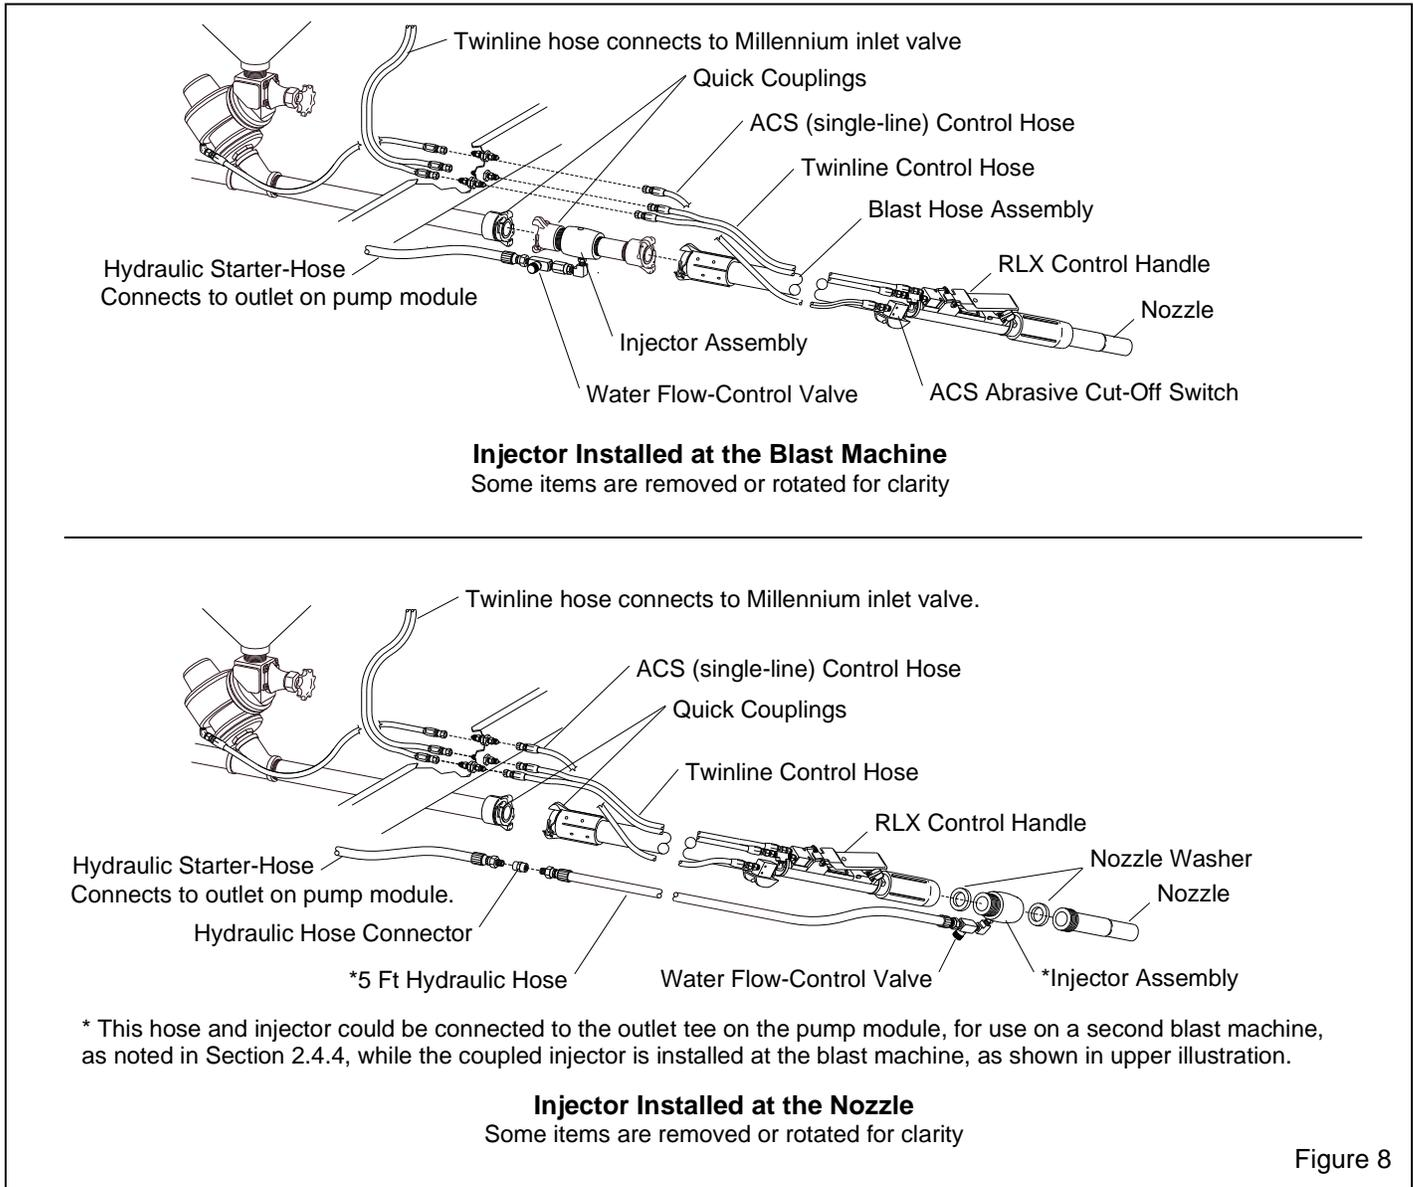
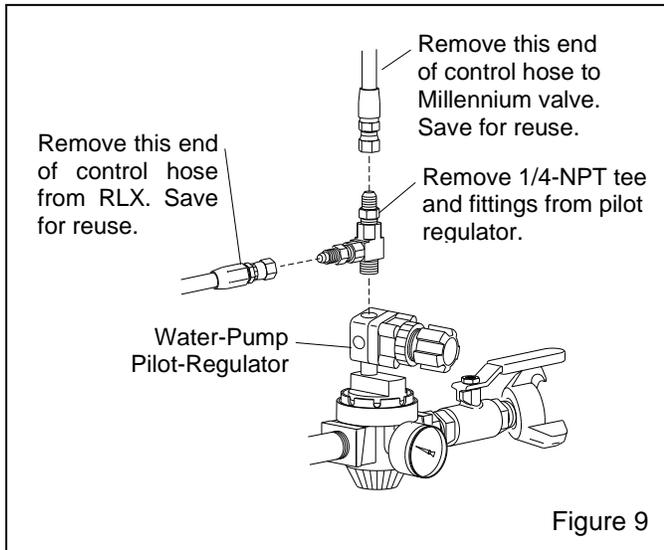

Figure 8
Figure 9
2.4.1 The injector may be placed in one of two locations as follows and, as shown in Figure 8.
Refer to the upper illustration in Figure 8.
2.4.2.1 The upper illustration in Figure 8 shows the injector installed onto a pipe assembly with quick couplings, and attached to the blast machine's blast hose connection. The benefits of this installation are:
2.4.2.2 Apply pipe thread sealant to the male threads on the hydraulic starter hose and screw the hose into the flow-control valve (installed on the injector assembly) as shown in the upper illustration in Figure 8.
Refer to the lower illustration in Figure 8.
2.4.3.1 The lower illustration in Figure 8 shows the injector installed at the nozzle. The benefits of this set up are:
2.4.4.3 Temporarily remove the two existing control hoses from the tee assembly that is attached to the water-pump pilot-regulator, as shown in Figure 9.
NOTE: The nozzle injector may also be installed on the blast hose of another separate blast machine, refer to the lower illustrations in Figure 8, Figure 9, and 10, and Sections 2.4 and 4.10.
3.3.2.7 Apply pipe thread sealant to the male threads on the hydraulic hose and screw the hose into the flow-control valve (installed on the injector assembly), as shown in the lower illustration in Figure 8.